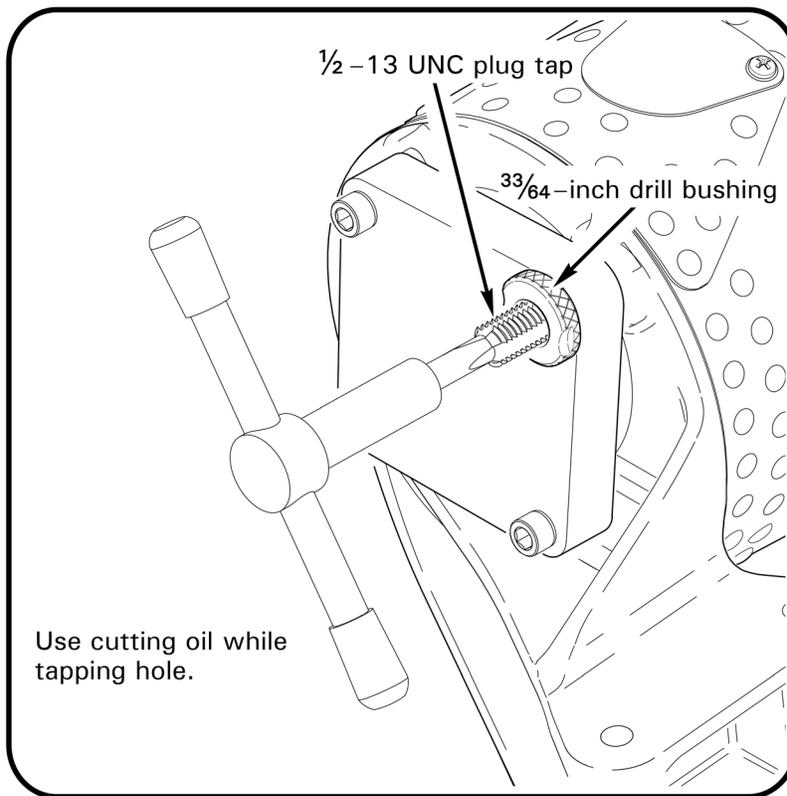

FIGURE 2 MT248 Set up to tap new threads
5. Refer to Figure 2. Secure MT248-2 block to aft bulkhead as described in step 3. Install the 33/64-inch diameter drill bushing in block and secure with MS27039C1-08 screw. Tap new threads using 1/2-13 UNC plug tap and cutting oil. Clean up debris.